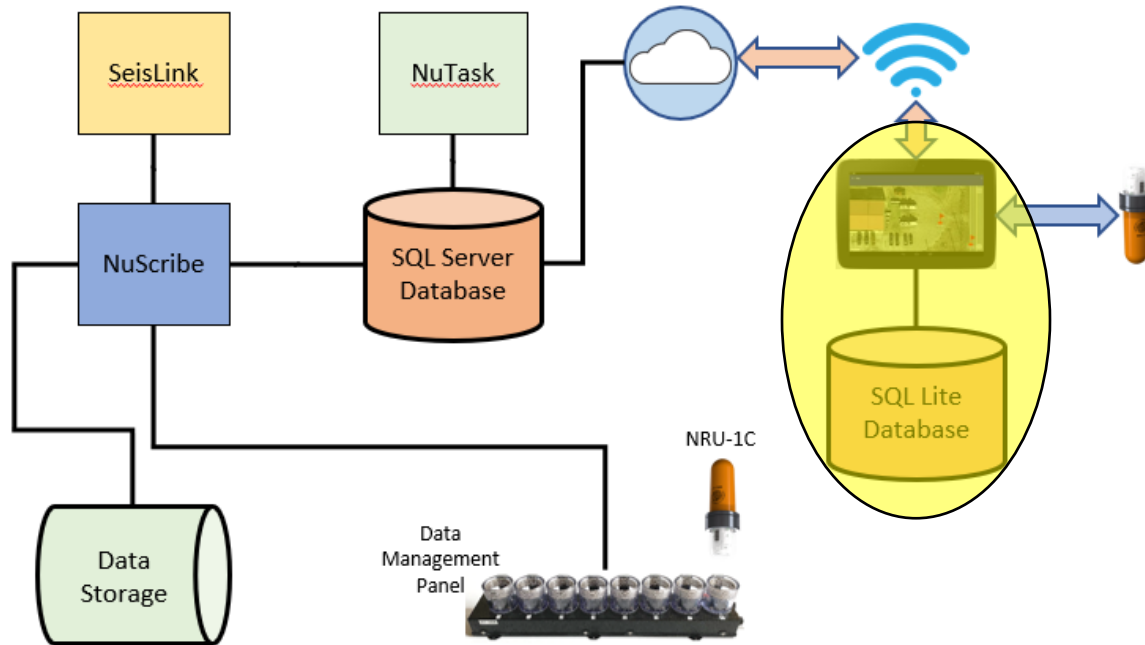

Figure 1
- Figure 1 above shows the NuSite software package as it is used in the overall NuSeis system.